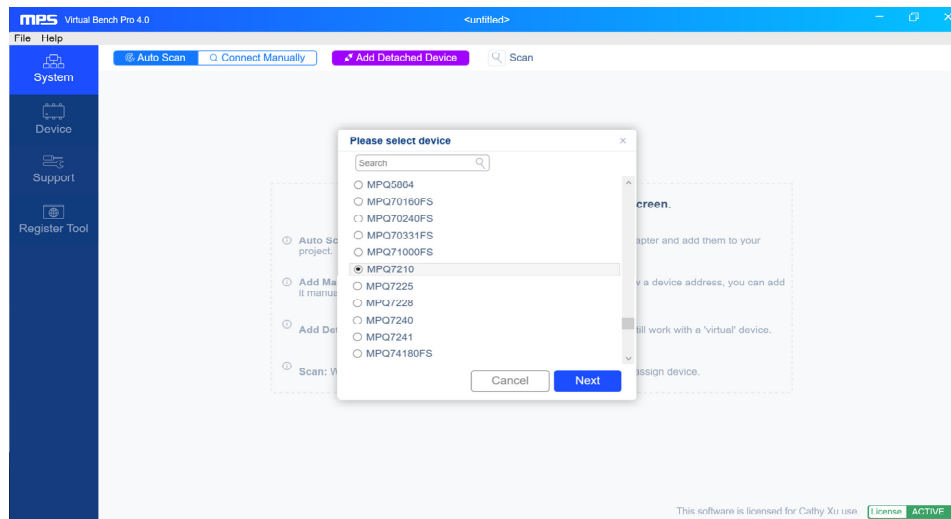

Figure 6: Select the MPQ7210 in Virtual Bench Pro 4.0
12. Select the device by finding the MPQ7210, then click “Next” (see Figure 6 on page 6).